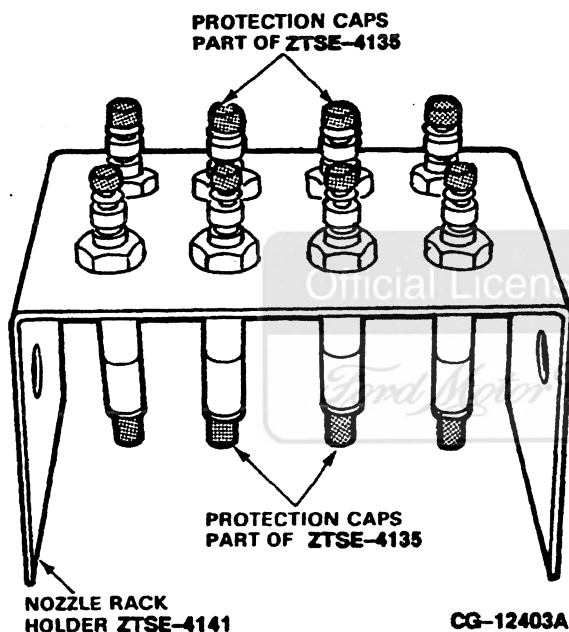

Figure 9.40. Nozzle Holder Rack
6. As nozzles are removed, place a protective cap on the nozzle tip. Place nozzle assemblies in a holding rack (ZTSE-4141). Identify each nozzle as to the cylinder from which it was removed. This permits replacing the nozzles in their respective ports during installation. Refer to Figure 9.40.